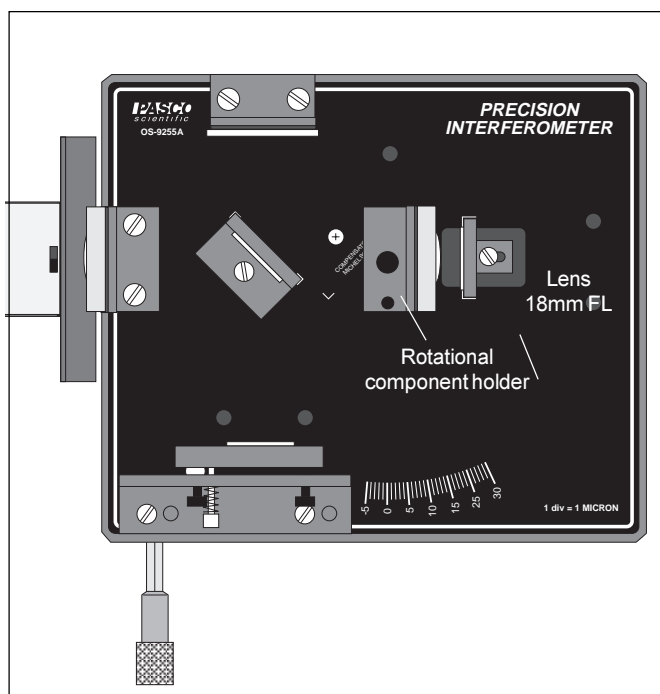

Figure 7. Twyman-Green Mode Setup
2. Remove the pointer from the rotational component holder. (It is recommended to store the pointer, washer and thumbscrew in the storage case.) Place the component holder between the beam-splitter and the movable mirror (see Figure 7). It attaches magnetically. Mount a second 18 mm FL lens ( $L_2$ ) on its magnetic backing and position it.